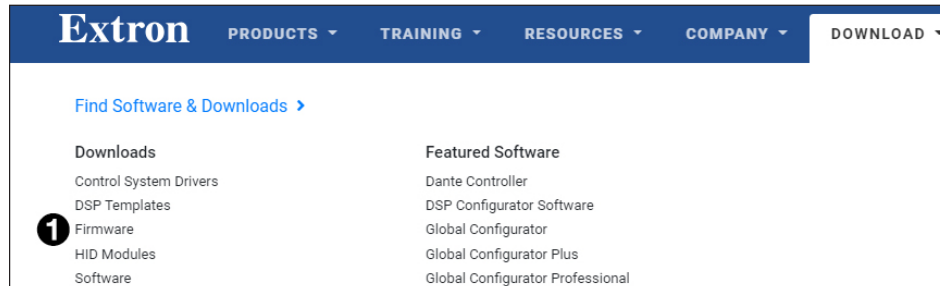

Figure 34. Downloading Firmware from the Extron Website
1. On the Extron website, www.extron.com, go to the **Download** tab and click **Firmware** (see figure 34, ①).